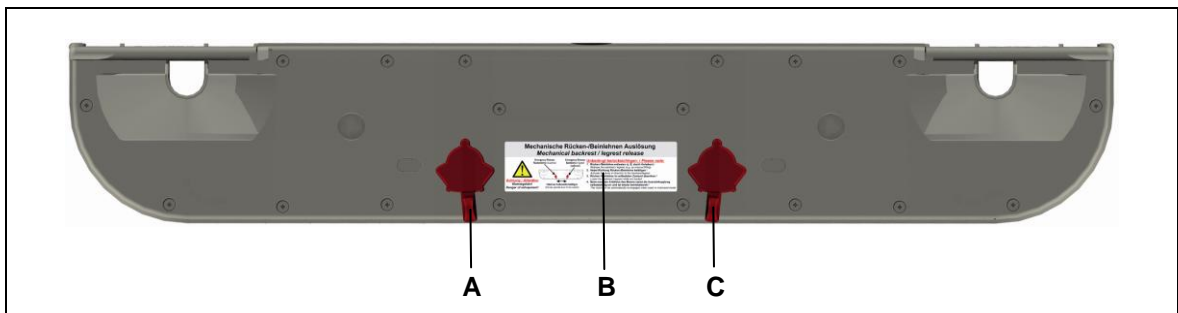

Figure 13 Back side of the DUOMAT 7 double drive, with mechanical reset function
- Take note of the information on the label located on the back of the double drive (refer to Figure 13).